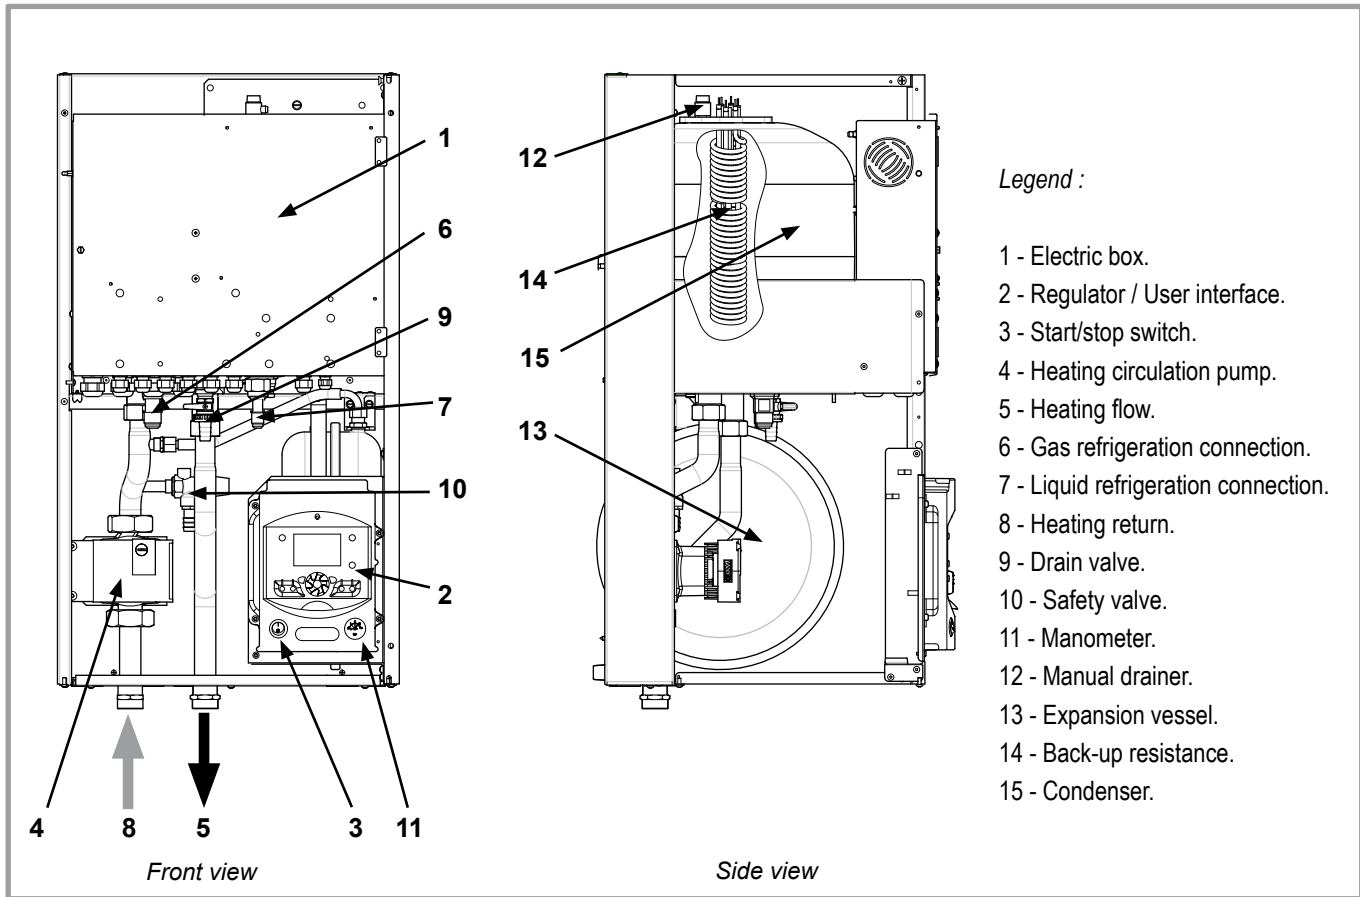

figure 7 - Hydraulic unit components
- In the condenser (ref. **14**, figure 7, page 10) : The energy in the refrigerant is transmitted to the heating circuit. The refrigerant returns to liquid state.